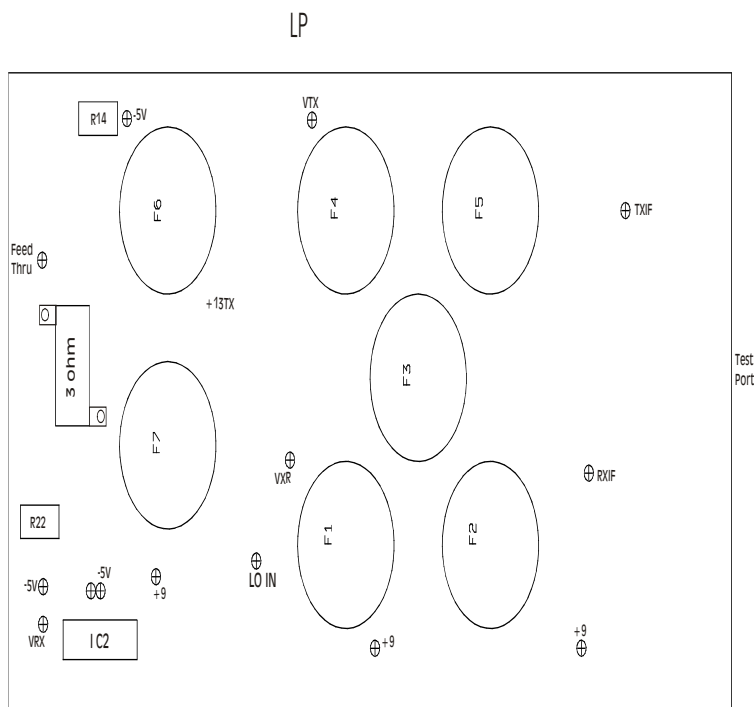

Figure 6. Filter Side of PCB Board
11. Install the bias wires as shown in figure 6. The figure shown is the full size pallet but the LP assembly only is indicated. All wires come in through the back of the pallet through the 1/8" clearance holes. They get soldered to the circuit board where indicated on the component placement diagram and some are labeled on the circuit board. They are labeled -5V, +VTX, +VRX, and +9. Using the #28 Teflon wire, cut, strip and tin the ends of a 2.75" length. Connect the two +9 by F1 and F2 together by inserting one end of the wire through the hole by F2 and solder it to that pad. Cut, strip, and tin three 6" pieces of wire. Insert the end of one 6" wire with the loose end of the 2.5" wire previously soldered through the +9 hole by F1. Solder both wires there. Now